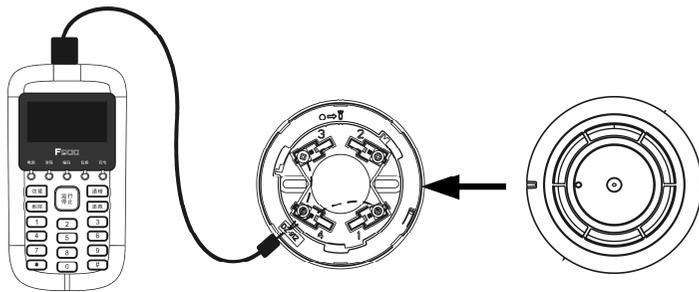

Fig.5
4. Coding address: As shown in Fig.5, detector is accessed via the detector mounting base on the coder, non-polarity connection is adopted for the terminals L1 and L2, set the coder with the coding function, select the correct address number and press the RUN key to complete the address code setup. (Note: See the User's Manual of the coder for the detailed operation.)